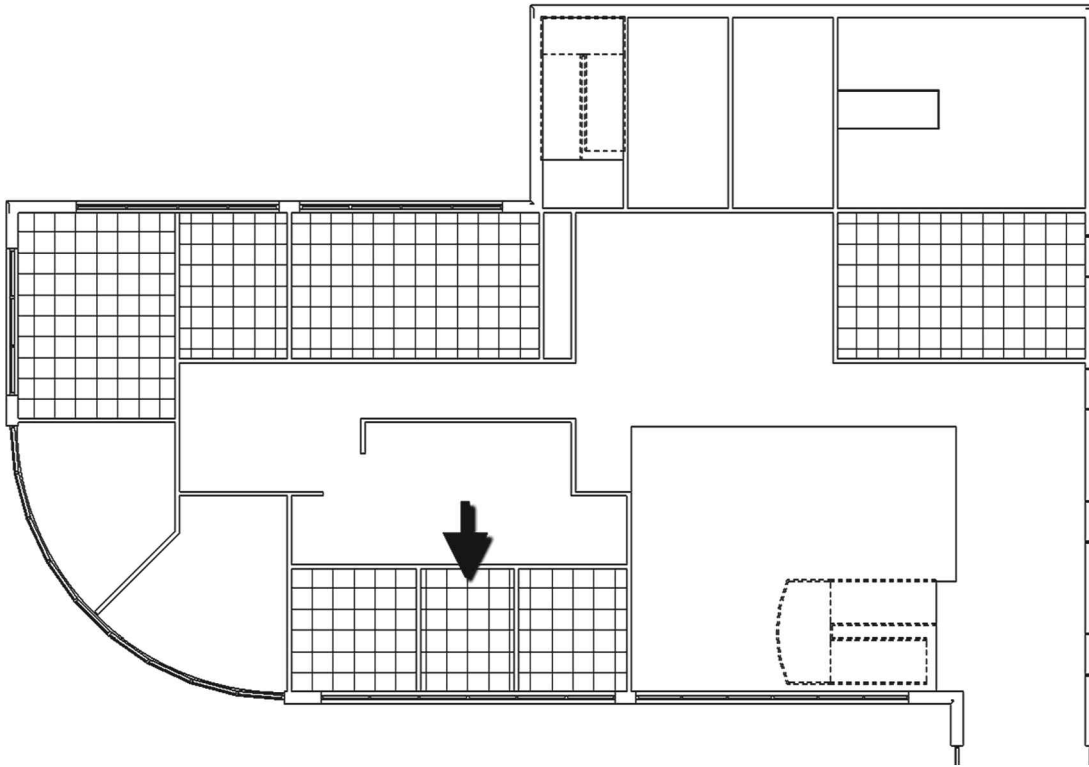

FIGURE 6-4.6: Level 1 Ceiling Plan view: 2' x 2' suspended acoustical ceiling tile added to rooms.
9. Use the **Ceiling** tool to place 2'x 2' acoustic ceiling tile (ACT) at 8'-0" above finished floor (AFF) in the rooms shown (Figure 6-4.6).
When you place a ceiling grid, Revit centers the grid in the room. The general rule of thumb is you should try to avoid reducing the tile size by more than half of a tile. You can see in Figure 6-4.6 that the East and West sides are small slivers for the center office on the South exterior wall. You will adjust this next.
11. **Select** the ceiling grid identified in Figure 6-4.6. Only one line will be highlighted.